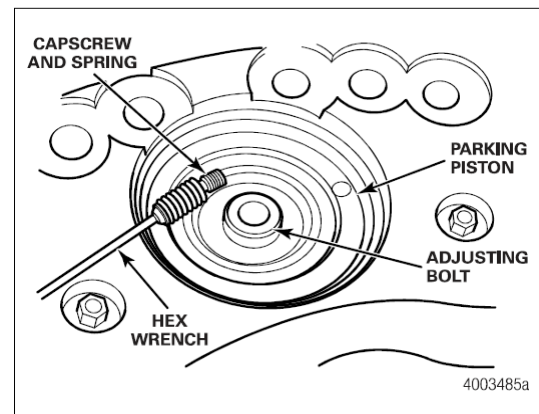

Figure 3.6
- Remove the shoulder bolt and spring, loosened in the step 2, from the parking piston cavity. Figure 3.6